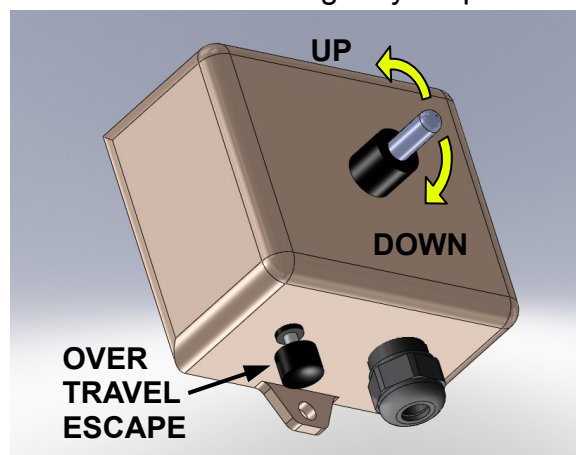

Figure 14: Upper Call Station
- 7) Push in the platform Emergency Stop, then reach inside the rail end and depress the right-hand roller switch (upper over travel). Press the button on the bottom of the upper call station (over travel escape – see Figure 14) while holding the over-travel switch. The platform should move down slowly and stop when the either switch is released. It will not travel for more than one second without releasing and pressing the over-travel escape button. Pull the Emergency Stop out and ride the platform down.